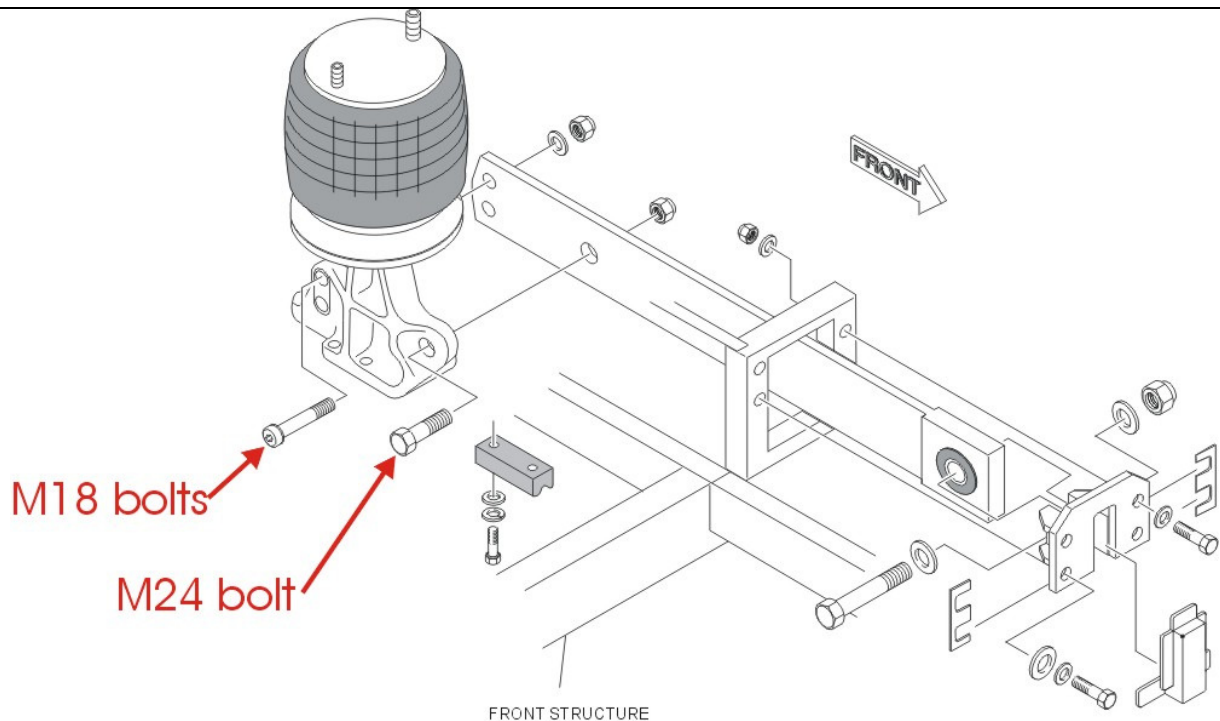

Figure 7: Curbside radius rod hardware.
- j. Align radius rod to air spring tower and reinstall the single M24 bolt and nut loose. See Figure 7.
- k. Reinstall the two M18 bolts and nuts loose. See Figure 7.